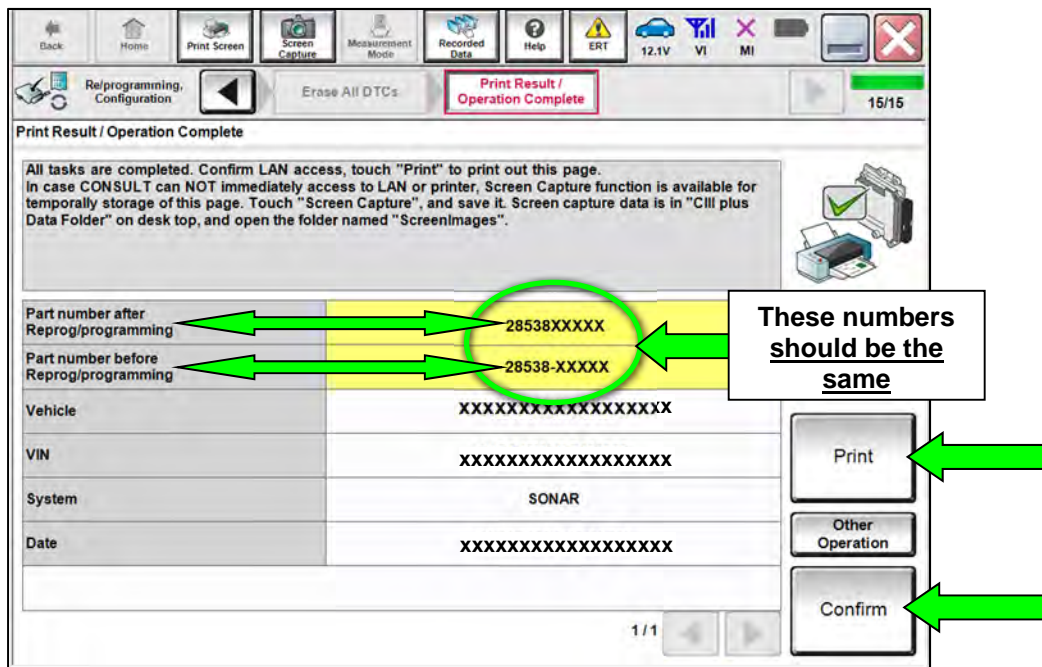

Figure 25
**HINT:** When the entire reprogramming process is complete, the screen in Figure 25 on page 17 will display.
41. Print a copy of the screen below (Figure 25) and attach it to the repair order for warranty documentation.